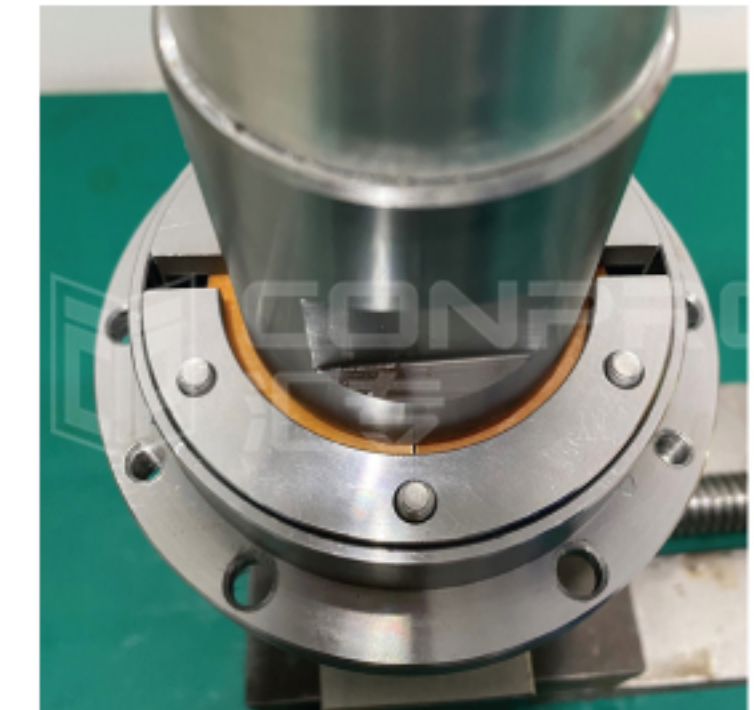

Figure 13
(11) Ensure that the upper and lower gaskets and the transducer are concentric. Keep the rest parts of the transducer out of contact with the flange except the edge. (As shown in Figure 13).